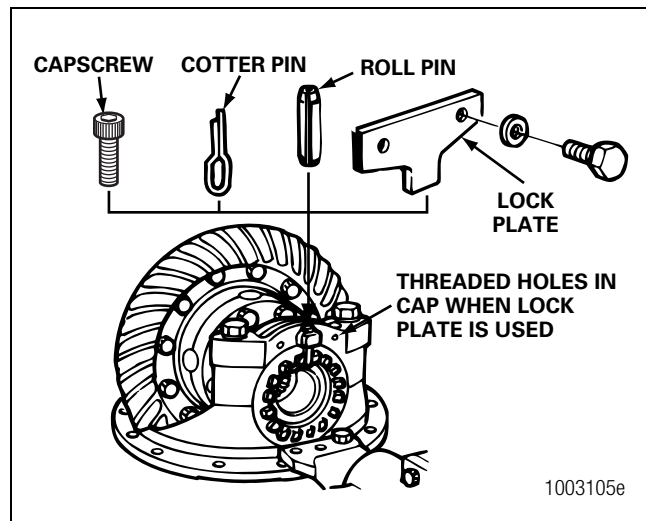

Figure 5.73
- A. Install capscrews between the lugs of the adjusting ring and through the boss of the bearing cap. New capscrews include a locking patch, which can only be used once. If you are installing used capscrews, apply Loctite® threadlocker to the capscrew threads before you install the capscrews. Figure 5.73.
- B. Install cotter pins between the lugs of the adjusting ring and through the boss of the bearing cap. Bend the two ends of the cotter pin around the boss. Figure 5.73.
- C. Use a drift and hammer to install the roll pin through the boss of the bearing cap until the roll pin is between the lugs of the adjusting ring. Figure 5.73.
- D. Install the lock plate onto the bearing cap so that the tab is between the lugs of the adjusting ring. Install the two capscrews and washers that hold the lock plate to the bearing cap. Tighten the capscrews to the correct torque value. Refer to Section 8. Figure 5.73.